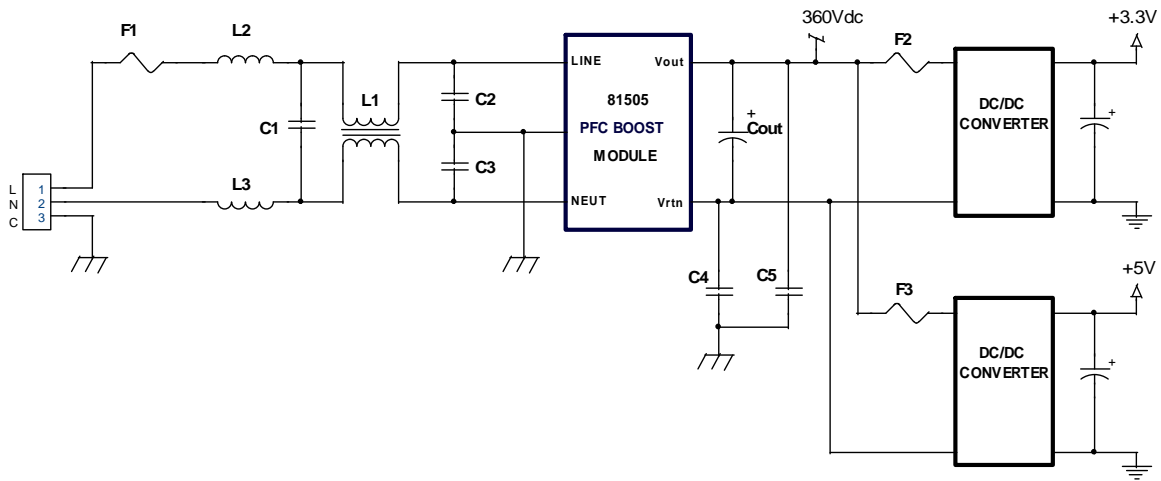

Figure 1. Typical Application Circuit, 3.3V & 5V, 120W Combined Output Power
A schematic of a typical PFC, dual output 3.3V and 5V modular power supply is provided in figure 1. A modular supply of this type is practical for one, two or three outputs and can accommodate any isolated output voltage from 2V to 48V. There are a variety of compatible DC/DC converters available off the shelf that can operate from a 360Vdc bus. The downstream DC/DC converters must be capable of operating from
When configured properly, the PFC modular supply depicted in figure 1 will operate from a 115Vrms, single phase, 47Hz – 800Hz input source and will provide approximately 120W combined output power. Provided sufficient output hold-up capacitance (C_{out}) is incorporated, the supply will comply with all of the input power requirements per RTCA/DO-160F, section 16 for the wide variable frequency category A(WF). This includes normal and abnormal operating conditions for AC equipment as well as the A(WF) limits for input harmonic distortion.